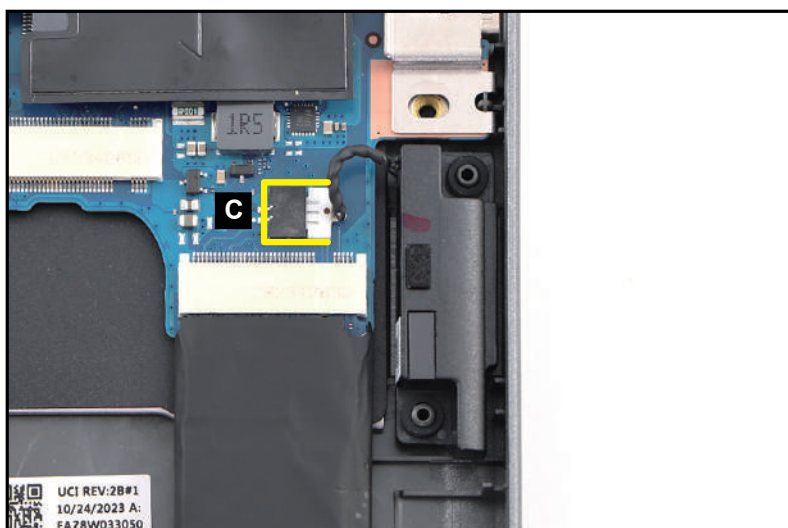

Figure 3-129. Replacing the Left Speaker
2. Connect the left speaker cable to the mainboard connector (C) (Figure 3-129).